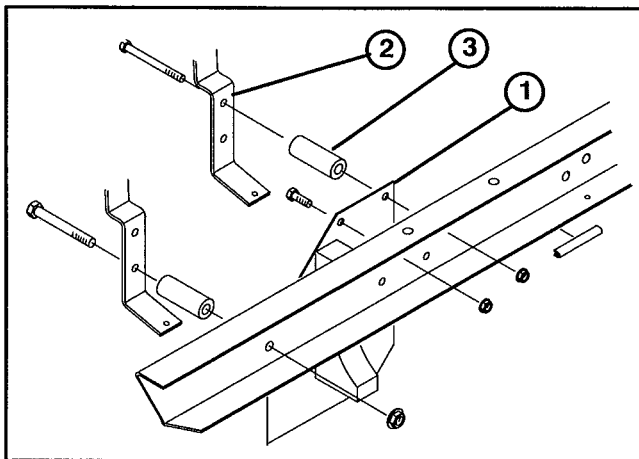

Figure 16
60. Place generator shield and baffle assembly against right hand frame channel, aligning rear holes in baffle with rear fuel tank mounting holes. Using front holes in baffle and frame secure together with (2) 3/8–16 x 3/4" lg. capscrews and flange nuts (Fig. 16).
66. Install frame trim to vehicle frame, centered on the fuel line, to prevent fuel line from rubbing on frame (Fig. 16).
67. Secure rear fuel tank support to shield and frame with (2) 3/8–16 x 4" lg. capscrews, spacers and nuts (Fig. 16).
68. Secure front fuel tank support to frame with (2) 1/2–13 x 4.5" lg. capscrews, spacers and nuts (Fig. 16).